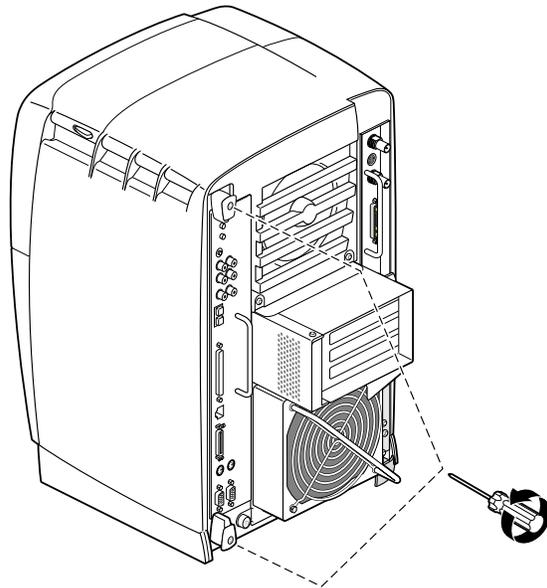

Figure 2-5 Loosening the System Module Screws
1. Use the provided Phillips screwdriver to loosen the two captive screws that secure the sliding handles to the workstation, as shown in Figure 2-5.